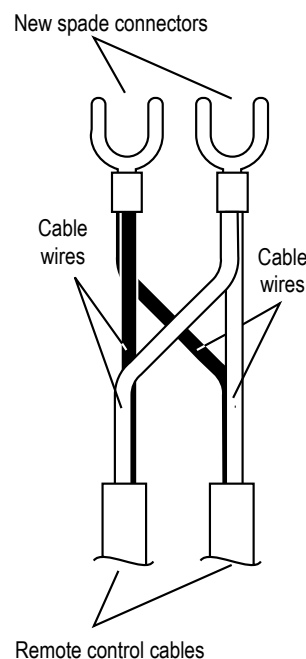

fig. 3
13. Cut the spade connectors from all four controller cables to be connected to the appliance (8 spade connectors should be cut off) and discard. Connect the wires from two cables and terminate into two new spade connectors as shown in (fig. 3).